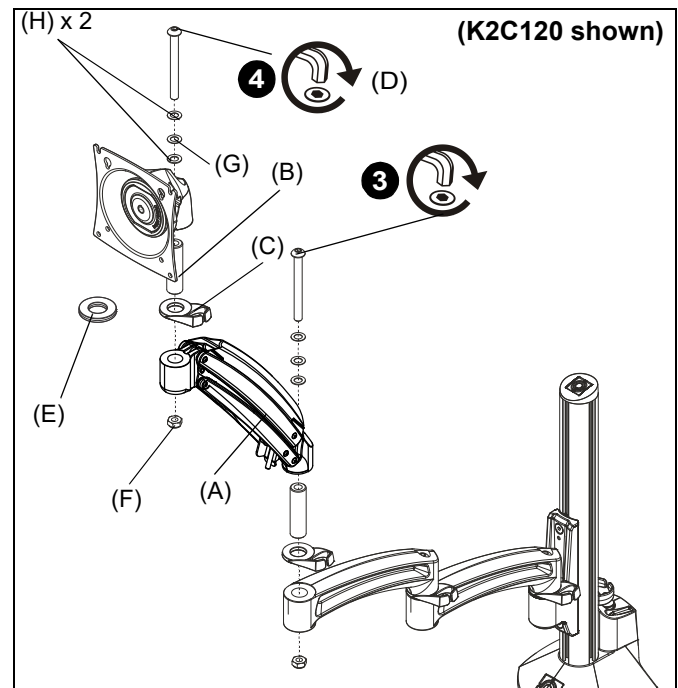

Figure 4
3. Use hardware removed in Step 1 to secure KRA240 arm to K2 mount. (See Figure 4)
4. Use 5/16-18 x 3 1/8" button head cap screw (D), two thin steel washers (H), 1/2" spacer (G), pivot pin (B), pivot pin spacer (E) or cable clip (B) and 5/16-18" hex nut (F). See Figure 4)